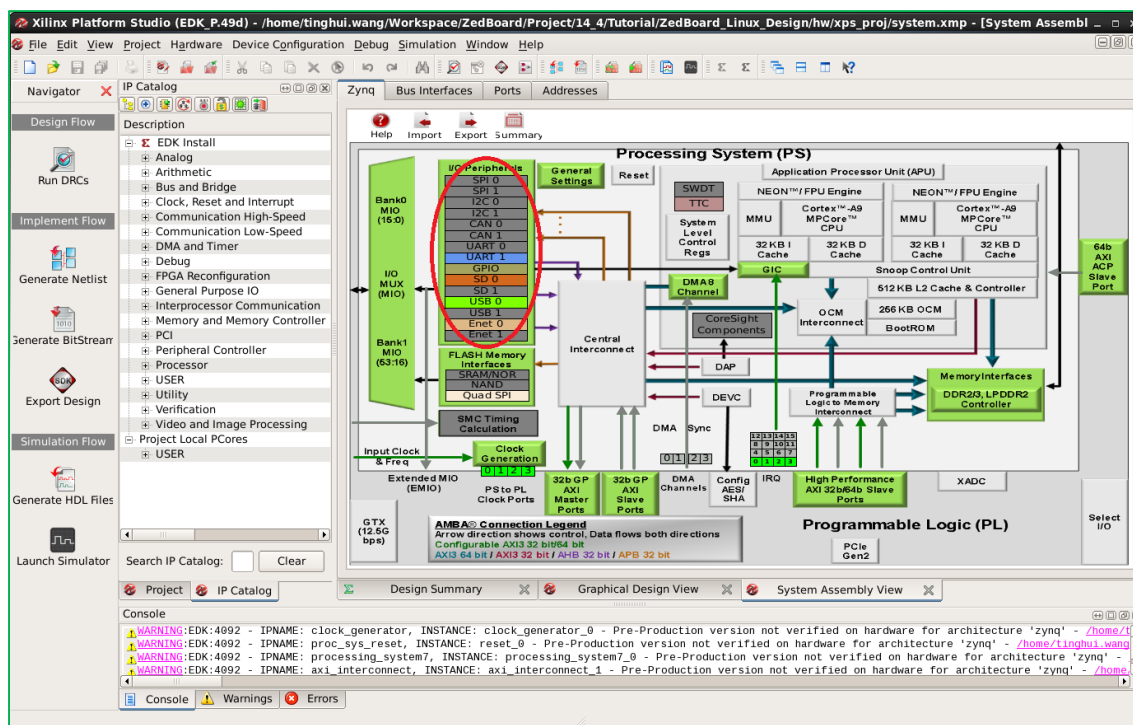

Figure 3. Xilinx Platform Studio GUI
- I-2** Source Xilinx ISE 14.4 settings and open the design with **Xilinx Platform Studio (XPS)**. See Example 2. You will see the **XPS** window pop up as shown in Figure 3.
I-3 We are going to detach LEDs from the GPIO core in the PS first. So, we need to click on the **I/O Peripherals** (red circle in Figure 3), and a **Zynq PS MIO Configuration** window will pop up as shown in Figure 4. We are going to change the width of GPIO on **EMIO** interface from **60** to **52** to remove 8 LED pins, as shown in the red circle in Figure 4. However, we also need to refresh the change in the **External Ports** section of the **Ports** tab. So, click **Ports** tab, expand processing_system7_0, expand **(IO_IF) GPIO_0**, disconnect it from **External Ports**, and connect it to **External Ports** again, and remove the **_pin** from the name (as shown in Figure 5). We will handle the modification of external pin location configuration (**ucf** file) in later steps.